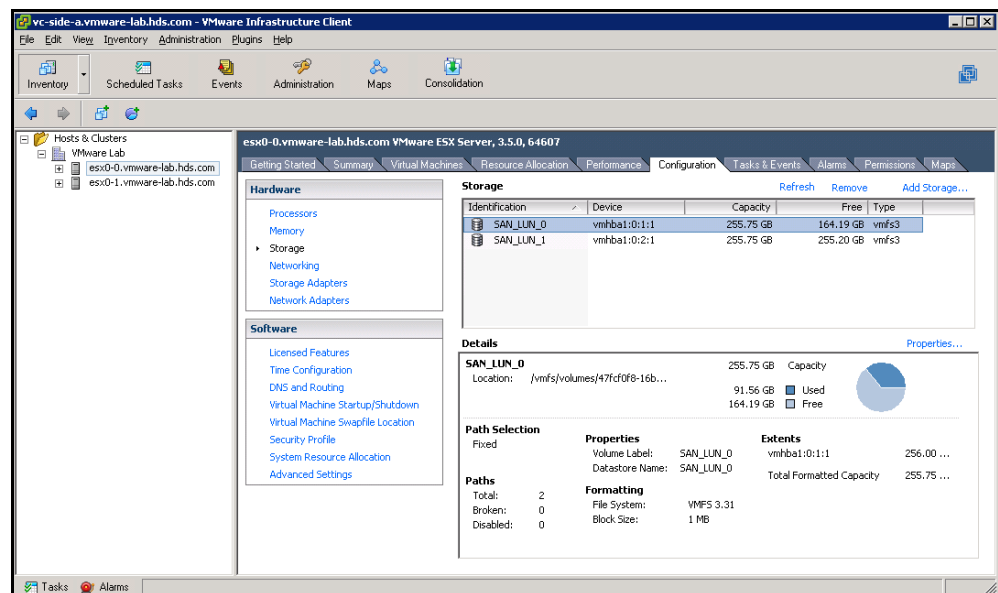

Figure 4-23: Example of VMware Infrastructure Page
23. After confirming that the settings are correct, click **Finish**. The VMware Infrastructure page appears, with your LUN/VMFS settings displayed (Figure 4-23).
TIP: On any additional hosts that will have access to the LUNs, you do not have to create the VMFS's again. Instead, on the other host, click **Refresh** above **Storage** on the VMware Infrastructure page (Figure 4-23).